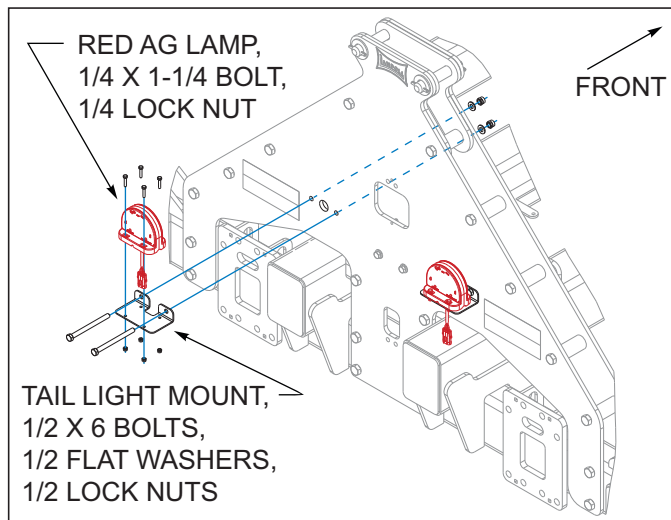

Figure 3-34: Red AG Lamp Installation
- Models 2411AFG-07-09 attach tail light mounts to back side of rear tower plate assembly using 1/2 x 6 bolts, 1/2 flat washers, 1/2 lock nuts *See Figure 3-34*. Attach the red ag lamps to tail light mounts using 1/4 x 1-1/2 bolts, 1/4 lock nuts.